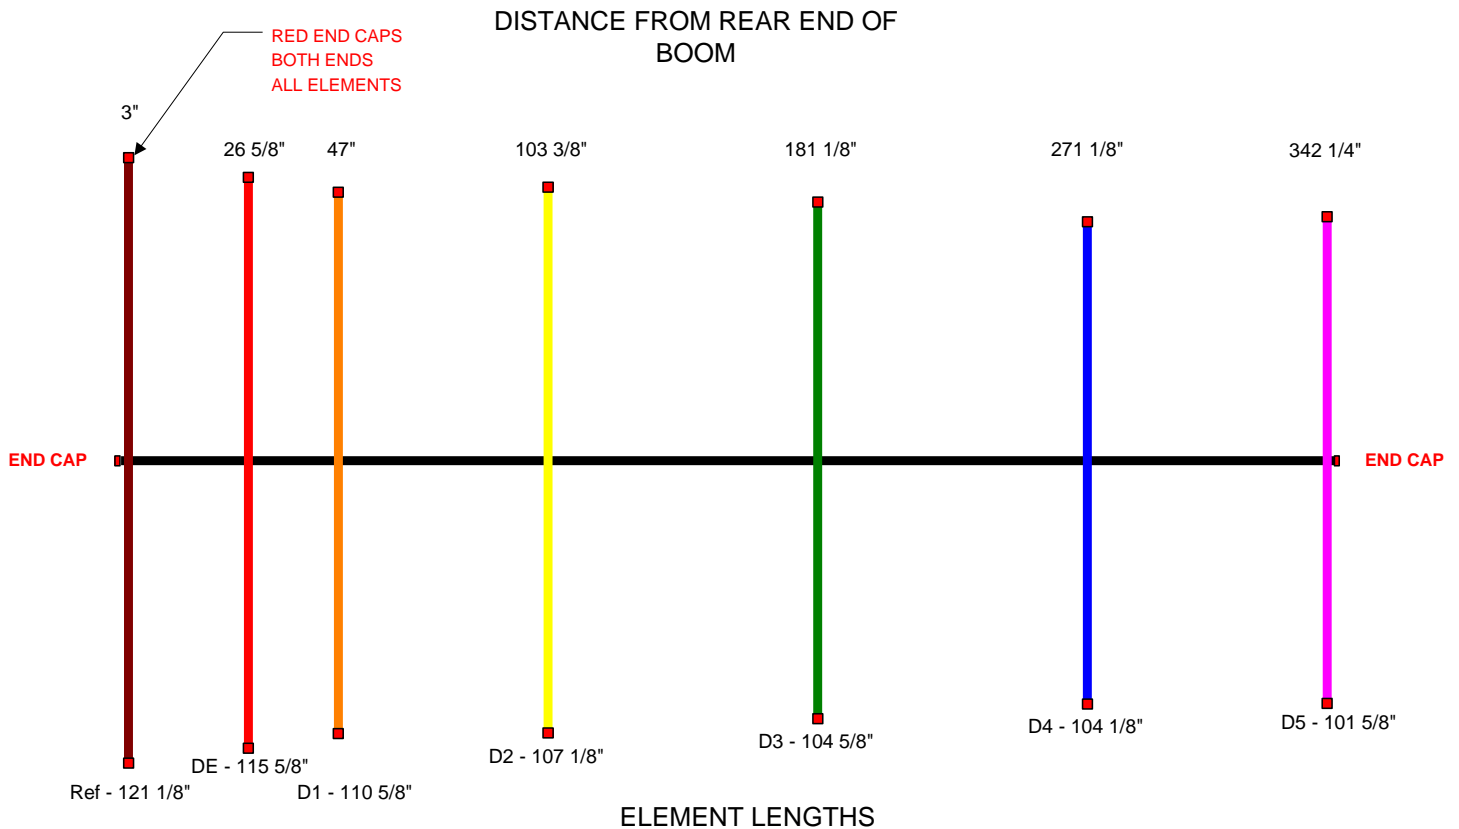

Figure 3
4. Using a permanent marker, refer to Figure 3 and mark the boom where each element mounts. All measurements are referenced from the reflector (rear) end of the boom.